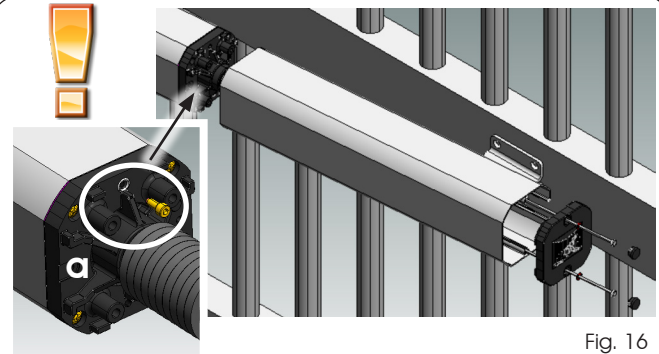

Fig. 16
16. Remove the bleed screw (Fig. 16 Ref. a) paying special attention to leave the sealing O-Ring in place.
17. Install the metallic protection cover as shown in Fig. 16, insert and tighten both tie-rods.